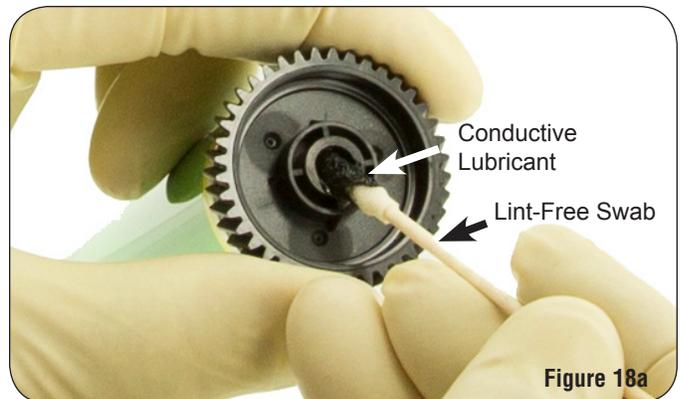

Figure 18a
6. Use a lint-free swab to apply a generous amount of conductive lubricant to the inside diameter of the drum drive gear (Figure 18a) and place the drum into the waste bin as shown in Figure 18b.